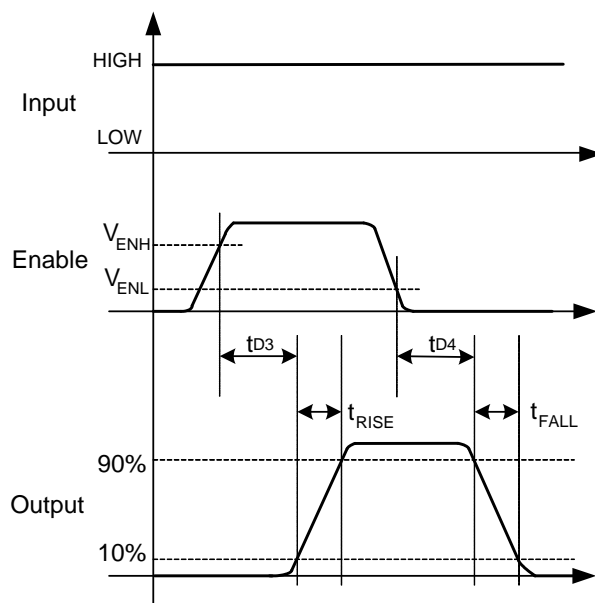
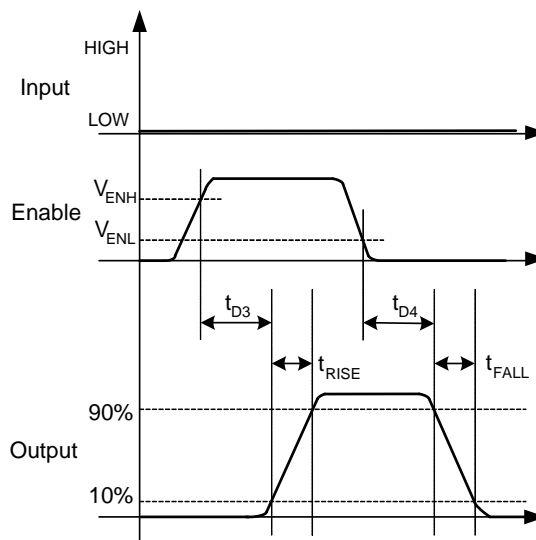

Figure 10. Non-Inverting (IN HIGH)
Figure 11. Inverting (IN LOW)
13. See *Timing Diagrams of Figure 10 and Figure 11*.